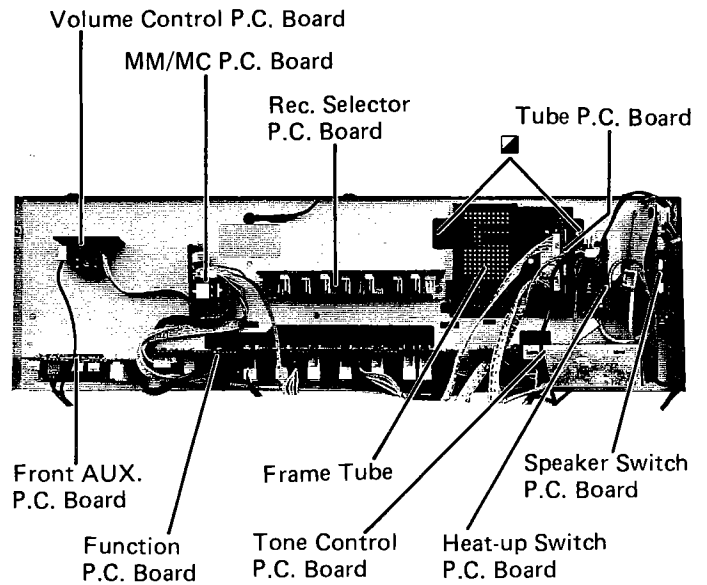

Figure 9
- (1) Remove two screws marked "■" as shown in Figure 9.